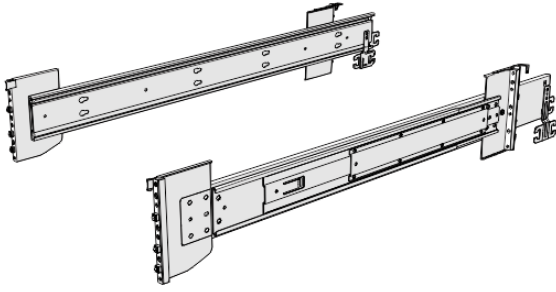

Figure 38. Support rails
1. Locate the hardware that is used to install the rails, including the M4xL6 and M5xL13 screws. Set the hardware, which is shown in Figure 38 on page 82, aside for use later in the installation process.